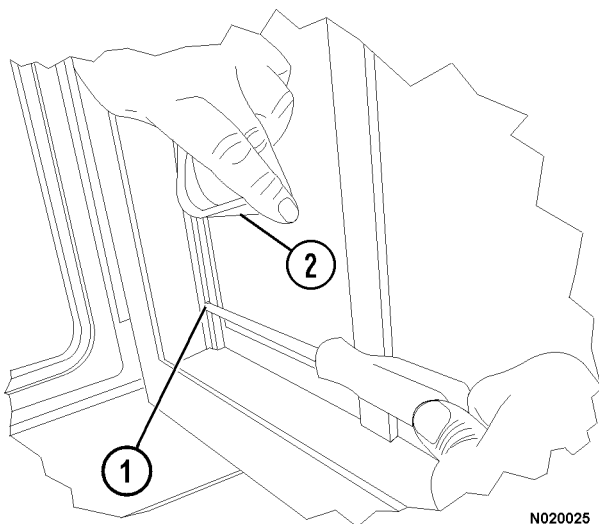
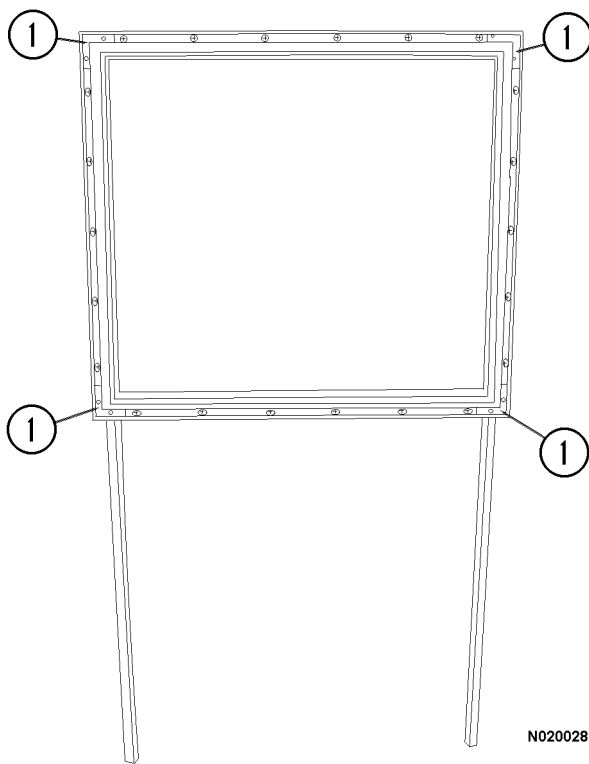

FIGURE 2-10.
FIGURE 2-13.
8. Remove the screw at the lower end of the window channels. It is necessary to pull rubber felt insert (2, Figure 2-10) out of the channel to be able to remove the screws.
12. Before installing new window glass, inspect the window frame. In each corner there is an "L" shaped bracket (1, Figure 2-13) with two screws in it to hold the corners of the frame together. Check the screws to ensure that they are tight. Also ensure that rubber felt insert (2, Figure 2-10) in the window channels is in good condition. Replace it if necessary.
16. Install screws (1, Figure 2-10) that secure the window frame to the door frame.